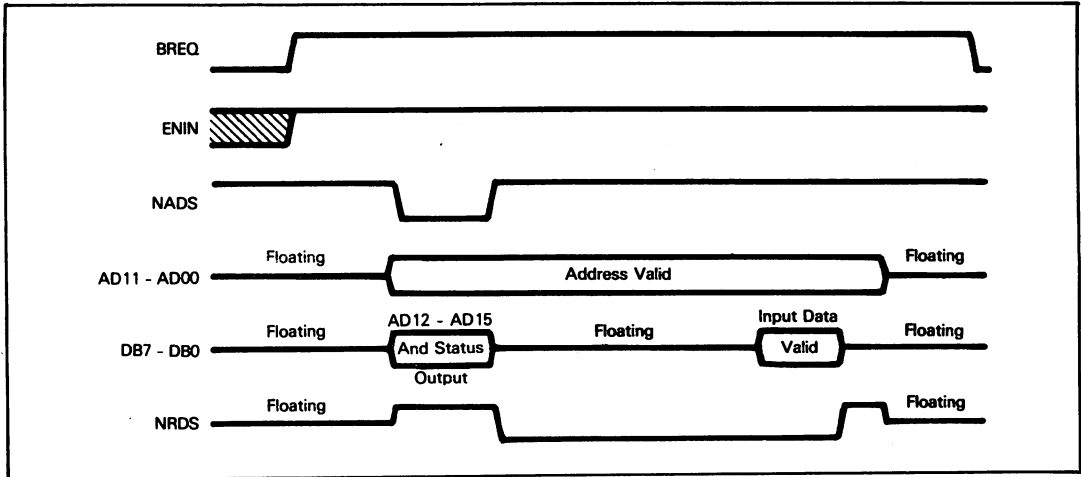

Figure 3-5. SC/MP Data Input Cycle
**Figure 3-5 illustrates the timing for a standard SC/MP data input cycle.** This timing applies regardless of whether the input cycle is to access data from memory or peripheral devices and also applies to instruction fetch operations.